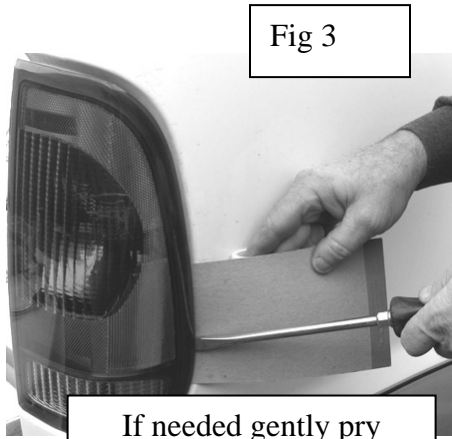

Fig 3
- Remove the two screws holding the taillight assembly using a 10MM socket wrench (Fig 2). Grasp the taillight assembly with one hand and pull gently. Be sure to pull straight out to avoid possible damage (Fig 3) If it is too tight, then using a large standard flat screws driver and something like the cardboard backing of a note pad or towel to protect the paint from damage. Gently pry off the outside of the taillight assembly out from the bed. This is the same procedure required to change a burnt out taillight in the assembly.